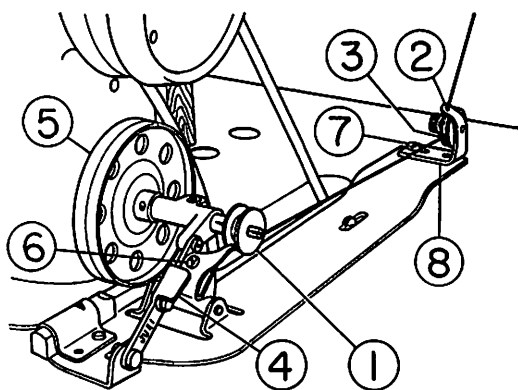

Fig. 4
Set the bobbin thread winder on the table with screws as shown in Fig. 4. When the trip latch ④ is knocked down, the bobbin winder ⑤